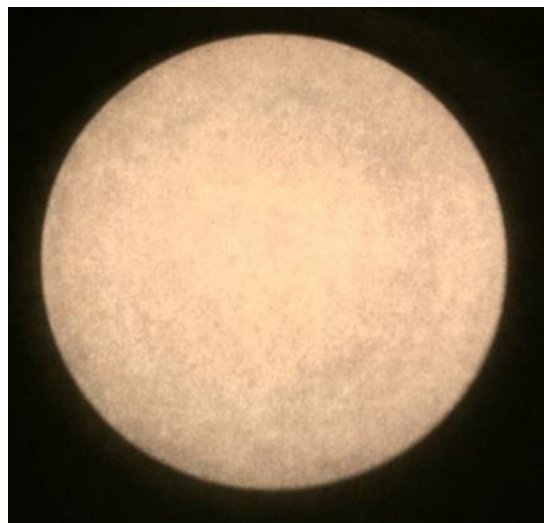

Figure 45: The light output of a properly aligned QTH lamp.
14. Move the lever so that it rotates about the cylindrical condenser lens assembly until the light on the backdrop becomes uniform and circular as seen in Figure 45. This is done by defocusing the beam, or moving the adjustment lever to what is usually its farthest position from the lamp housing.
15. Tighten the adjustment knob to lock it into position when the image seen on the backdrop matches Figure 45. If there are any dark spots or inconsistencies in brightness, repeat steps 7 through 13 for QTH lamp alignment.